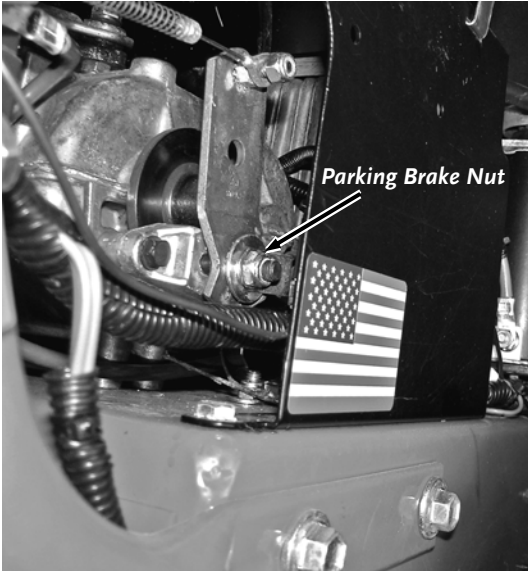

Figure 31
1. Tighten or loosen the Parking Brake Adjusting Nut as needed (**Figure 31**). Tightening the Nut (clockwise) will increase pressure and loosening the Nut (counterclockwise) will decrease the pressure on the Brake Pad.